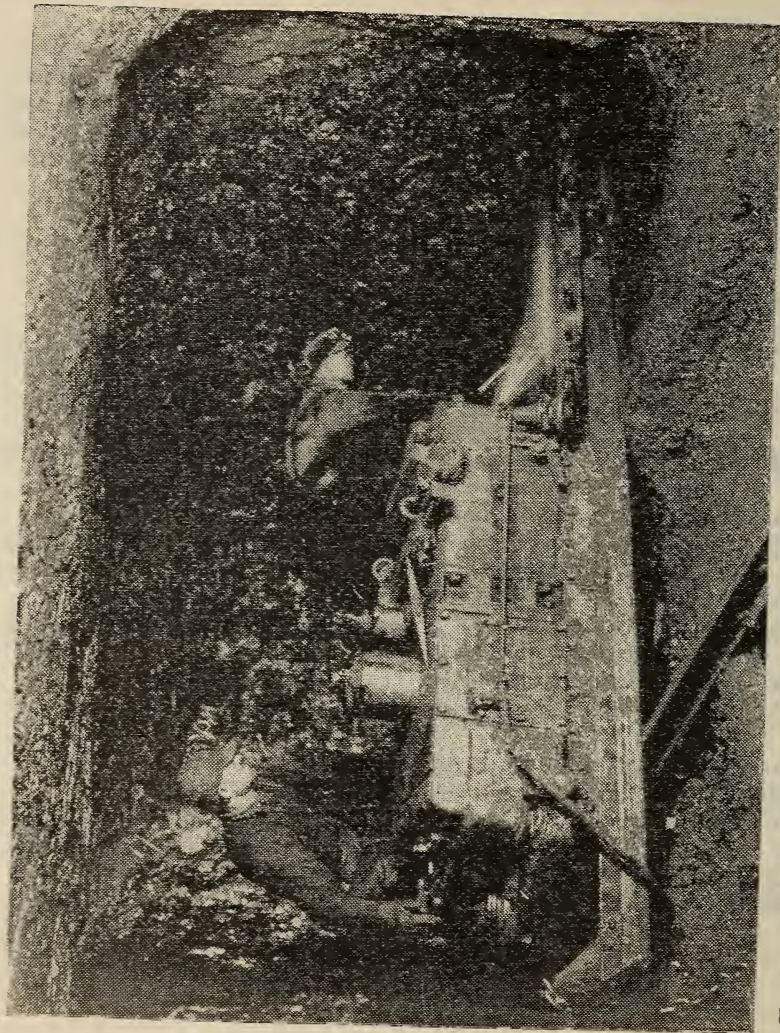

FIGURE 28.—Water on the cutter bar of mining machines reduces dustiness in face regions and helps to prevent coal-dust explosions.
A. Only when used systematically and frequently to allay fine dust. (See fig. 28.)